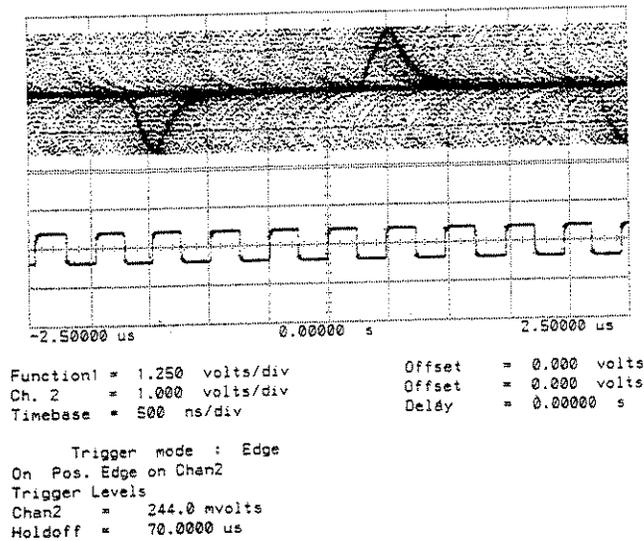

Figure 8-33 8UI p-p Jitter
- When the display is at the overlap point, as shown in Figure 8-33, verify the Tx Jitter Amplitude reading is between [7.9 UI] and [8.1 UI] p-p.